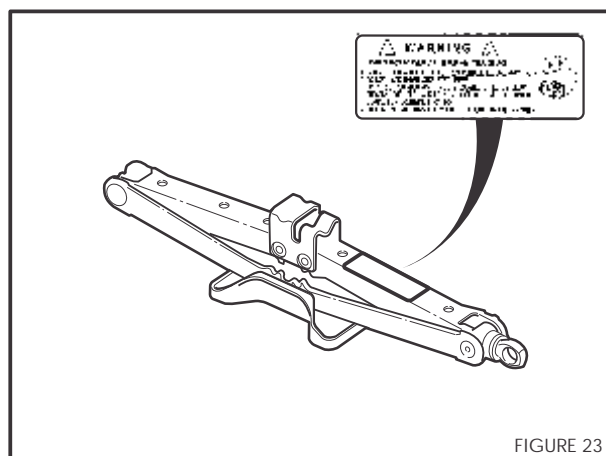

FIGURE 23
- Attach the Jack Warning Label (Item V) to the vehicle jack. Ensure existing label on the jack is covered by the new Jack Warning Label as shown in Figure 23.